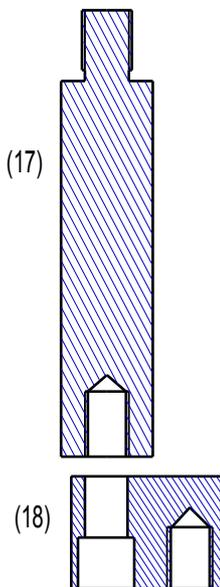

Fig. 8 Column leg
Unpacking process in PCS 400 HPWU stands needs to connect column with stand platform by four legs (see Fig. 8). Legs consist of own leg (17) and connecting cam (18). Leg is screwed to column bottom hole and connected to the cam by M14 bolt. Another bolt M14 is used to connect cam to the stand platform.